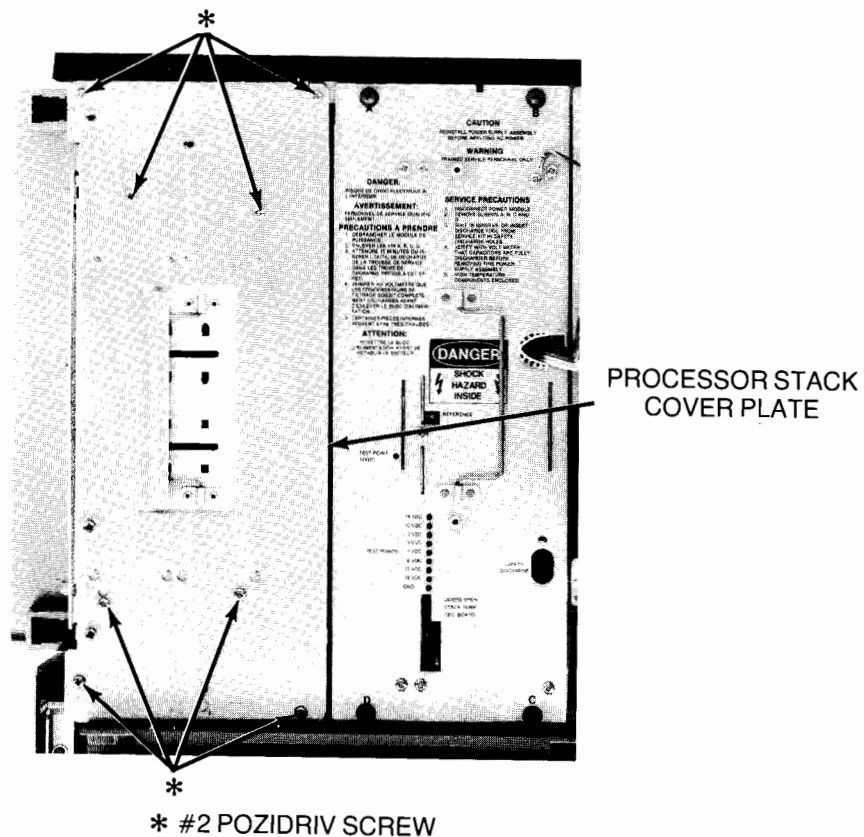

Figure 4-23. Removing Processor Stack Cover Plate
9. Remove eight #2 Pozidriv screws that attach cover plate over processor stack, and remove cover plate (Figure 4-23).